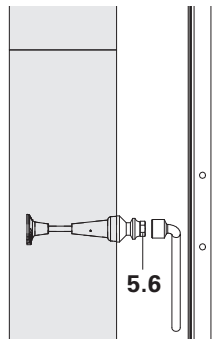

Fig. B1.33
3. Loosen scaffold mounting ring and Bolt M24 x 120 (5.6) on the previous concreting segment with socket wrench SW 36 and remove. (Fig. B1.33)
3. Loosen scaffold mounting ring and Bolt M24 x 120 on the previous concreting segment with socket wrench SW 36 and remove. (Fig. B1.33)